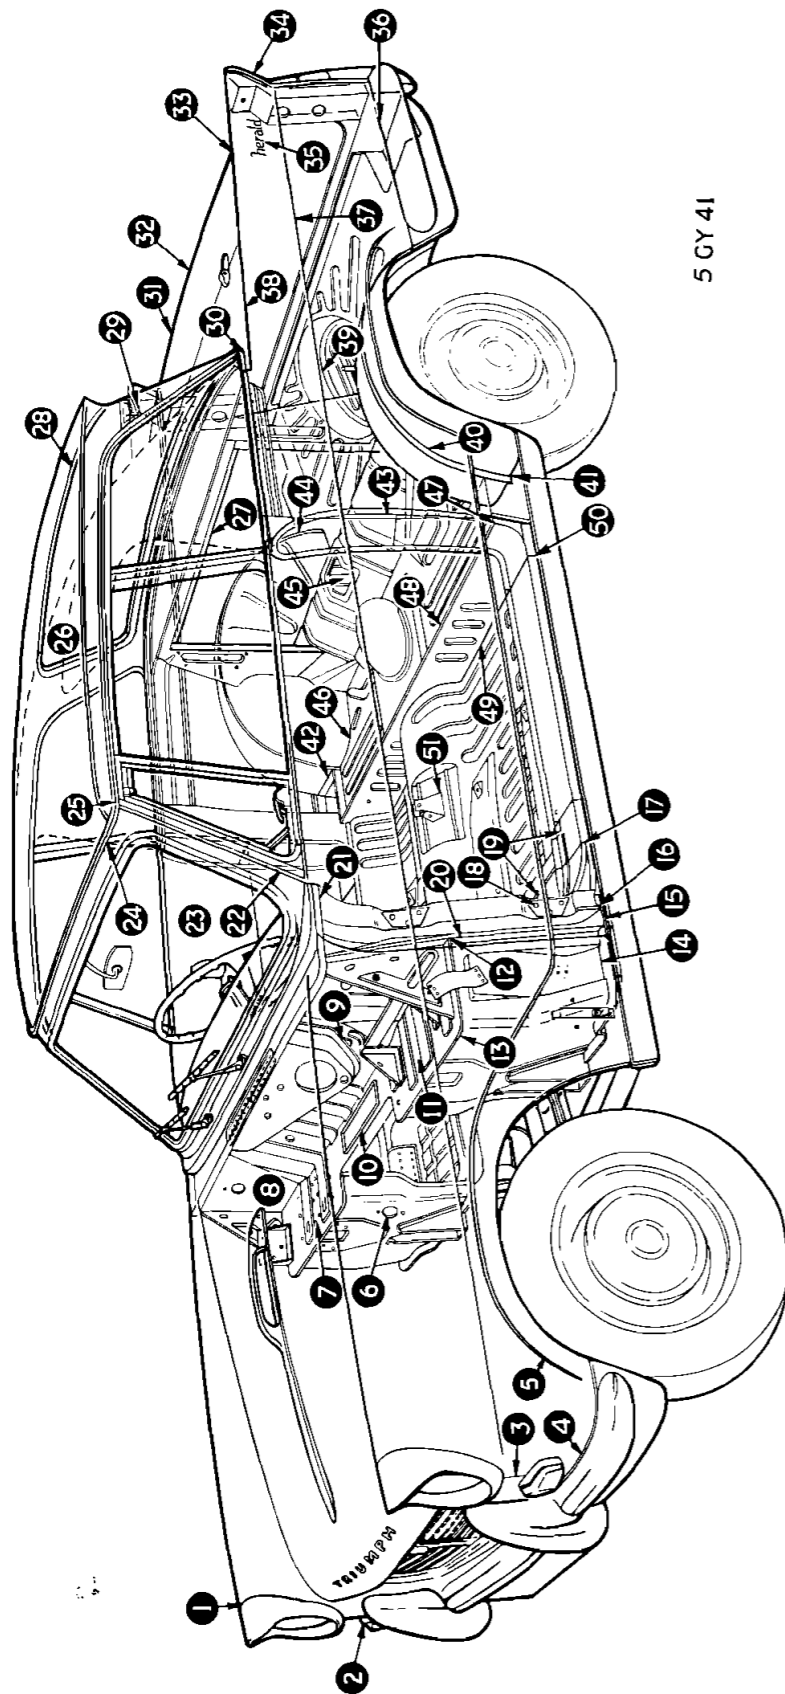

Fig. 1. Location of sealed joints (Herald and Vitesse)
**To Fit** (Figs. 1 and 2)
The following joints cross-refer to Fig. 1.